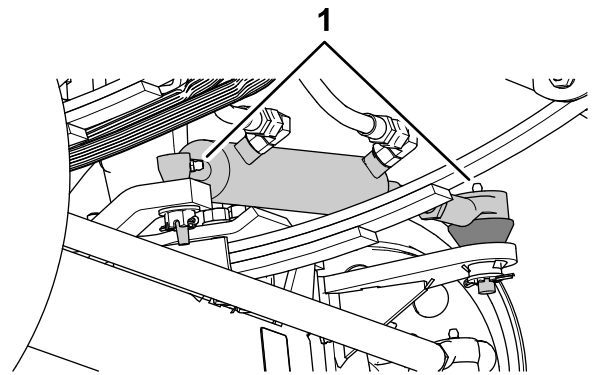
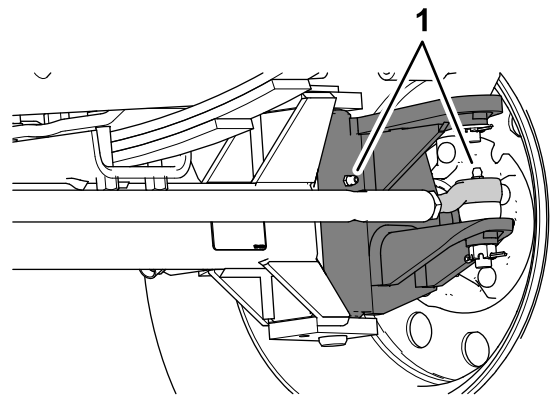

Figure 67
Figure 68
1. Wipe the grease fittings clean (Figure 67 and Figure 68).
2. Pump grease into the grease fittings (Figure 67 and Figure 68).
Note: The grease fittings positions are illustrated in Figure 67.